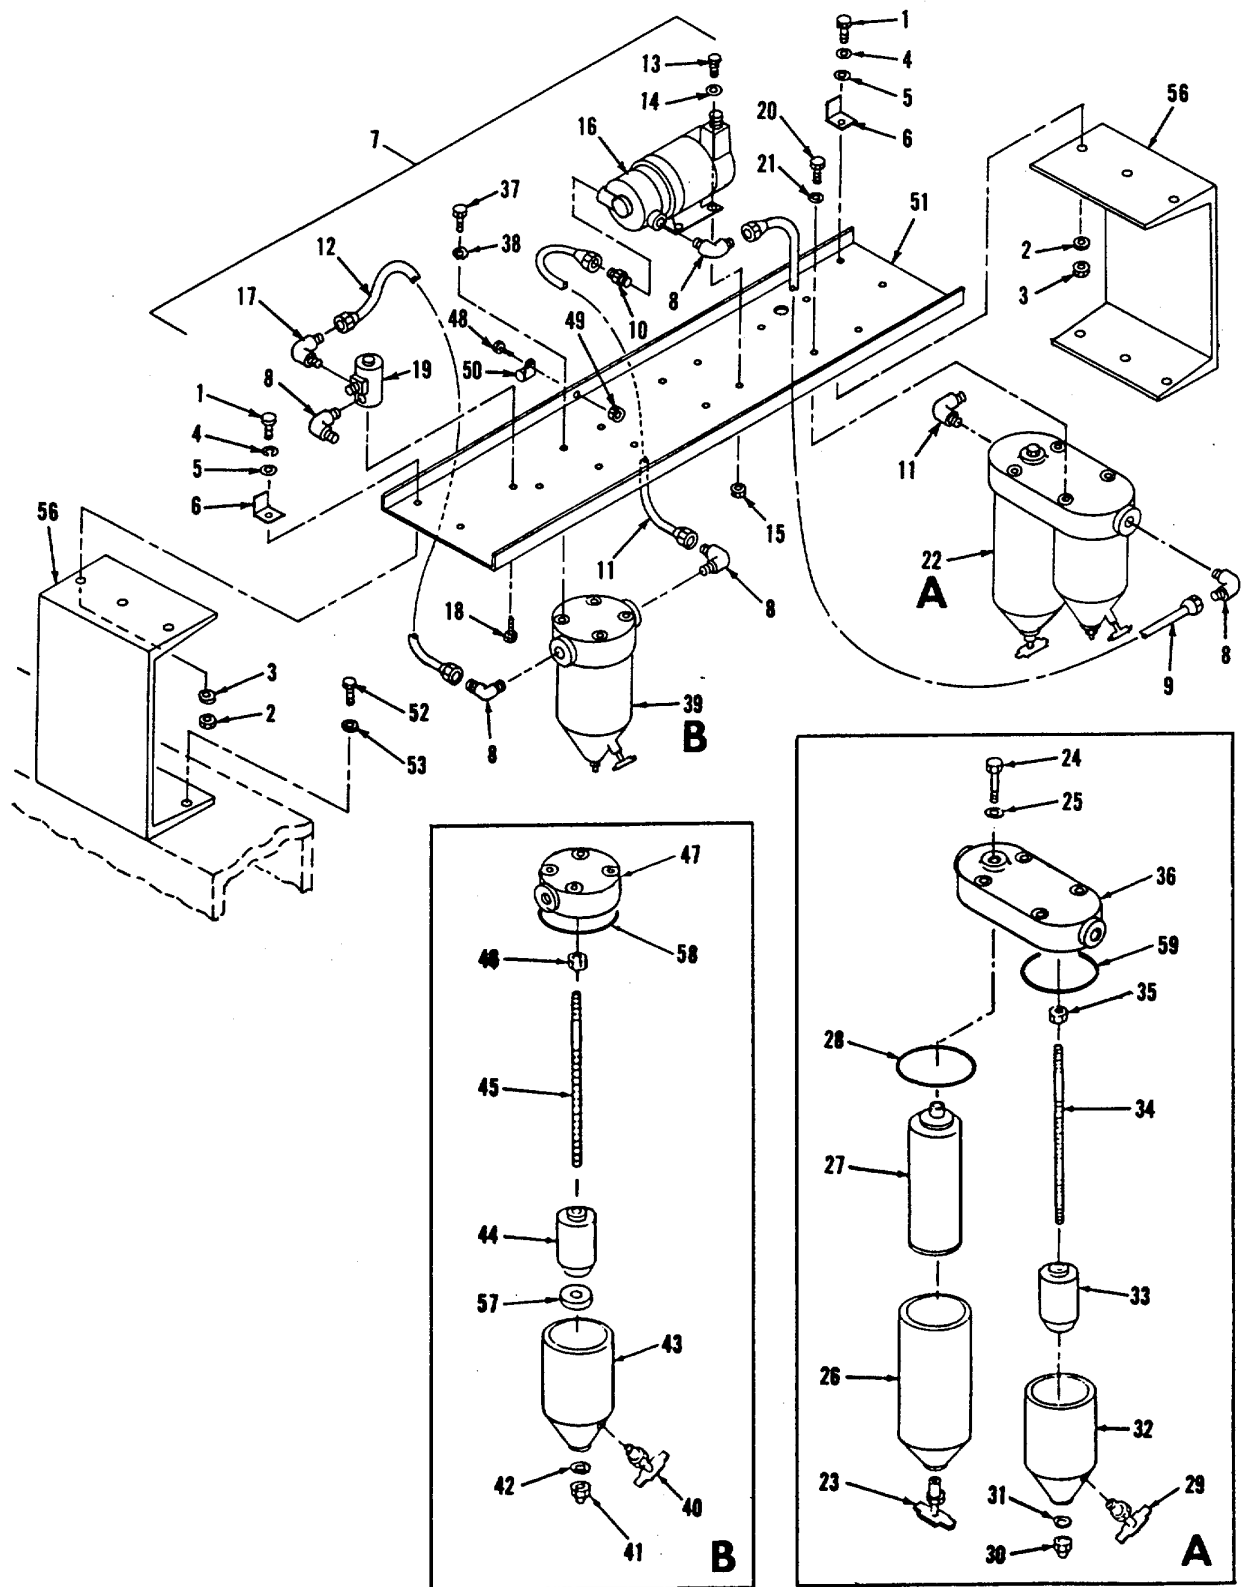
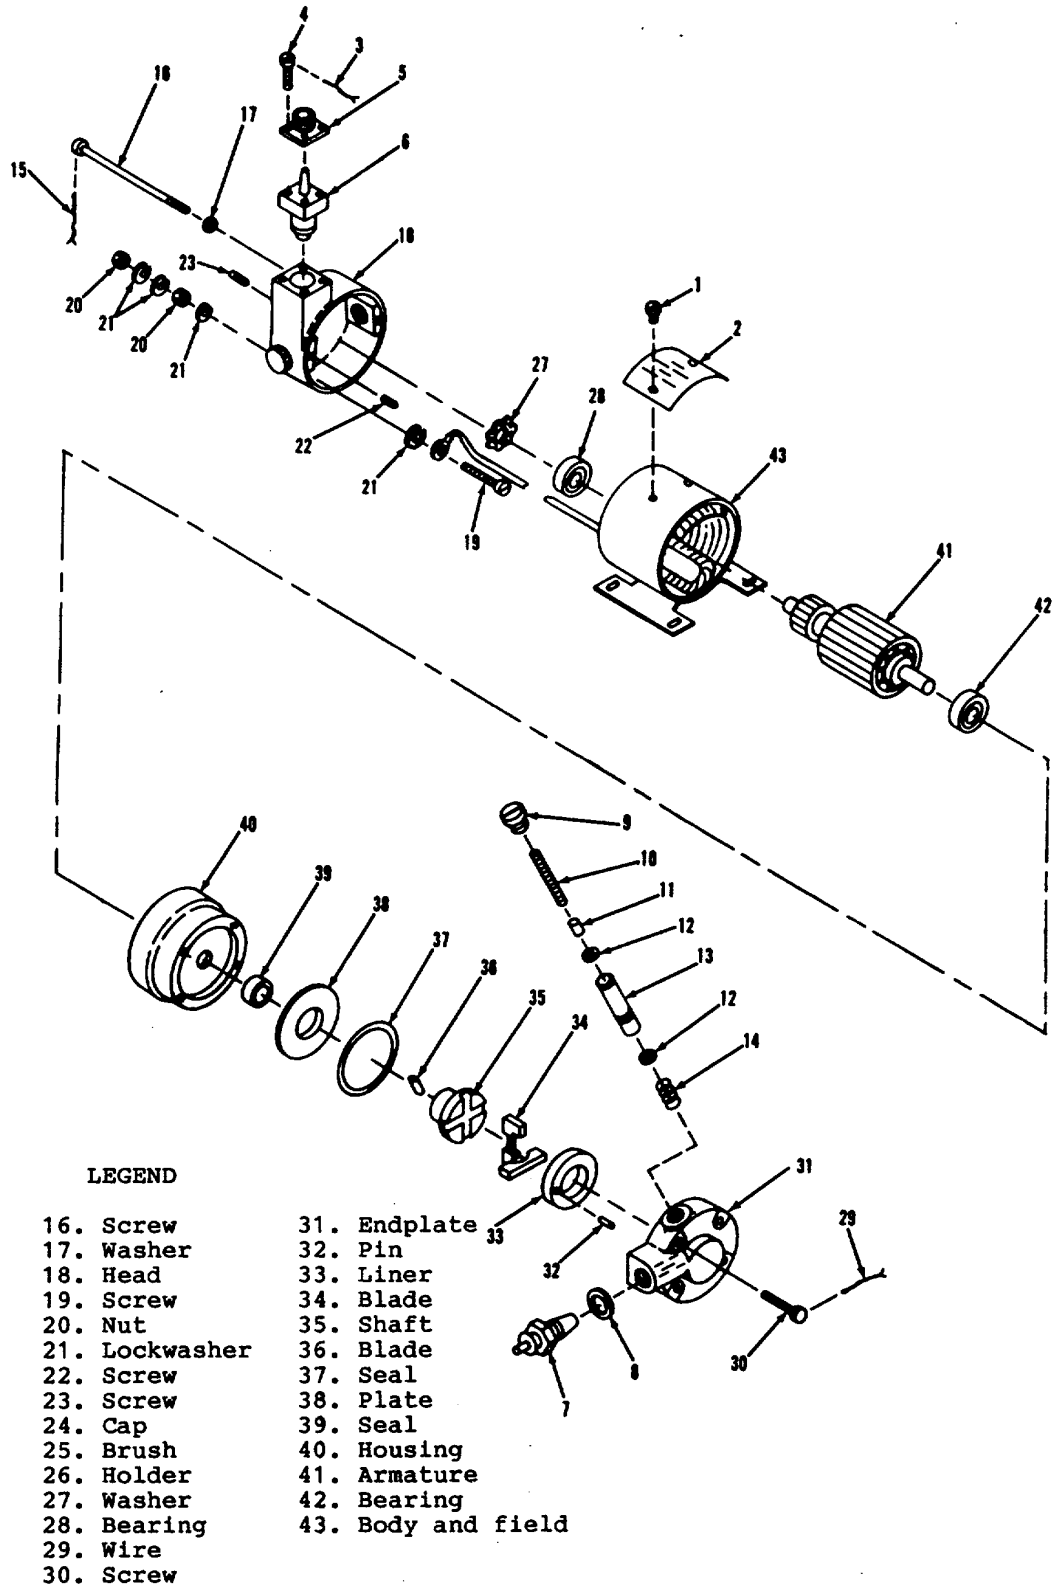

Figure 9-1. Fuel Transfer Pump Installation, Exploded View
Figure 9-2. Fuel Transfer Pump, Exploded View
9-1. GENERAL. The fuel transfer pump (figure 9-1) is used to transfer diesel fuel from an external source to the generator set fuel tank. It is mounted on the left side of the generator set, in back of the AC-DC control box assembly. The fuel transfer pump assembly fuel inlet connection is located on the base assembly, below the fuel transfer pump assembly. The fuel transfer pump is electric motor driven and actuated by a control panel selector switch. In the automatic AUTO position, transfer pump operation is controlled by a float level switch in the generator set fuel tank and the fuel flow is controlled by a solenoid valve on the fuel transfer pump assembly.
- (2) Remove four screws (13), washers (14), and nuts (15).
b. Installation. (See figure 9-1)
- (1) Install pump (16) onto bracket (51) with four screws (13), washers (14) and nuts (15).
- (2) Attach fittings (8 and 10) and hose assemblies to inlet and outlet ports of pump.
9-3. REPAIR. (See figure 9-2.) Pump repairs involve replacement of the inlet filter assembly (7), bypass
- e. Motor Brushes. Motor brushes are readily removable by unscrewing caps (24) and removing brushes (25). Replace brush after 2500 hours of operation or if square section of brush is less than ¼ inch in length.
- f. Feed thru Capacitor. Remove wire (3) from four screws (4). Remove connector shell (5) and feed thru capacitor (6) by removing four screws (4).
- (1) Test. Test solenoid valve 3 (19, figure 9-1) using an ohmmeter set on the Rx1 scale. Check for continuity. If continuity is not indicated the valve is defective and should be replaced.
- (2) Replacement. (See figure 9-1.)
LEGEND FOR FIGURE 9-1